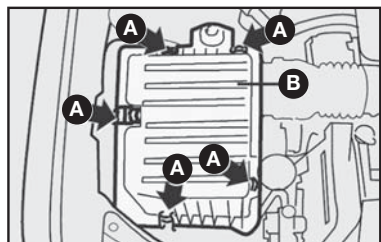

fig. 10
**SUBSTITUIÇÃO – figs. 10, 11, 12 e 13**